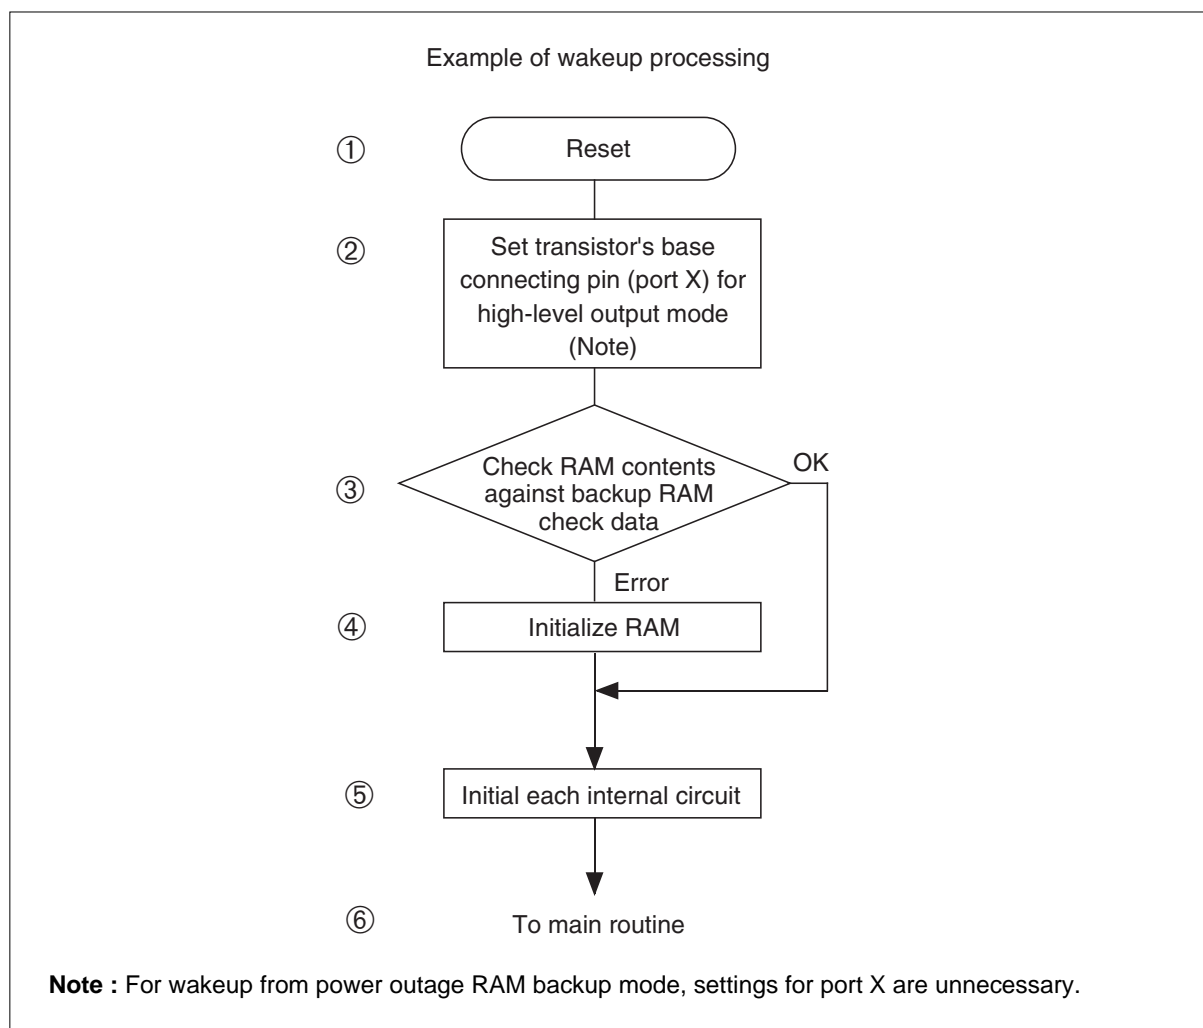

Figure 17.4.1 Wakeup Processing
Processing to exit RAM backup mode and return to normal operation is referred to as "wakeup processing." Figure 17.4.1 shows an example of wakeup processing. Wakeup processing is initiated by reset input. The following shows how to execute wakeup processing.
- (1) Reset the device (① in Figure 17.4.1). For details about reset, refer to Chapter 7, "Reset."
- (2) Set port X for output mode and output a high from the port (② in Figure 17.4.1).(Note)
- (3) Check the RAM contents against the check data created before entering RAM backup mode (③ in Figure 17.4.1).
- (4) If the RAM contents and check data did not match when checked in (3), initialize the RAM (④ in Figure 17.4.1). If the RAM contents and check data matched, use the retained data in the program.
- (5) After initializing each internal circuit (⑤ in Figure 17.4.1), return the main routine (⑥ in Figure 17.4.1).